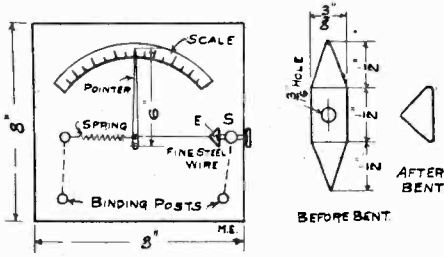

FIG 1-
In figure 1 is shown the general arrangement. (S) is a block of brass,